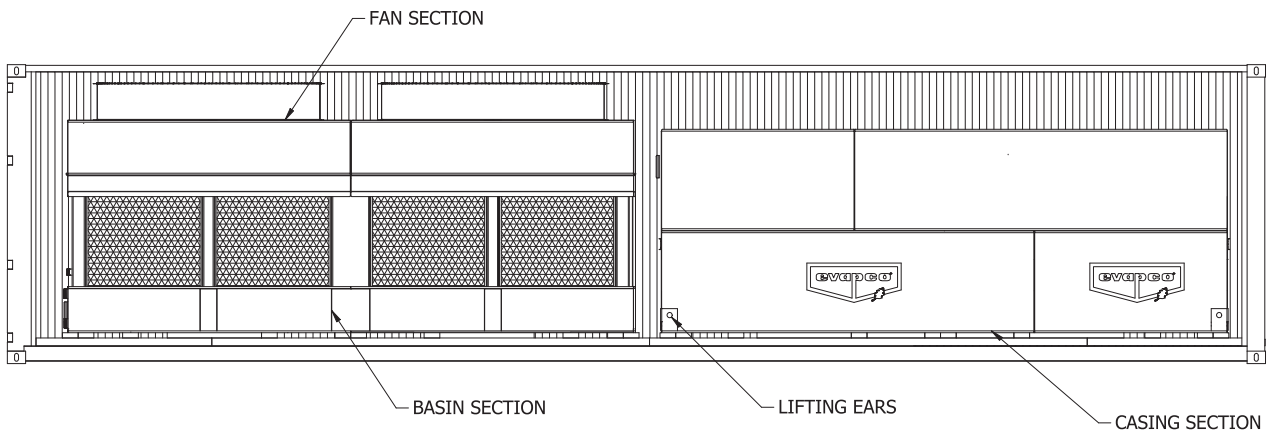

Figure 11 - 40' High Cube Container Shipment
*HC indicates "High Cube." High cube containers provide an additional foot of container height which allows for standard fan cylinders to ship mounted to the fan sections (See Figure 11 for an example of a high cube container).
Figure 11 below shows an example of a 7' x 18' (2.2mx5.4m) unit shipping in a 40' high cube container. A high cube container is used so that the fan cylinders can ship mounted to the fan section. In such a case, the fan section is loosely bolted to the basin section.